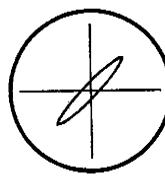

Fig. 24
- 4) If front left signal and front right signal is out of phase (180° phase inverted), the waveform on oscilloscope screen will appear as shown in Fig. 24.